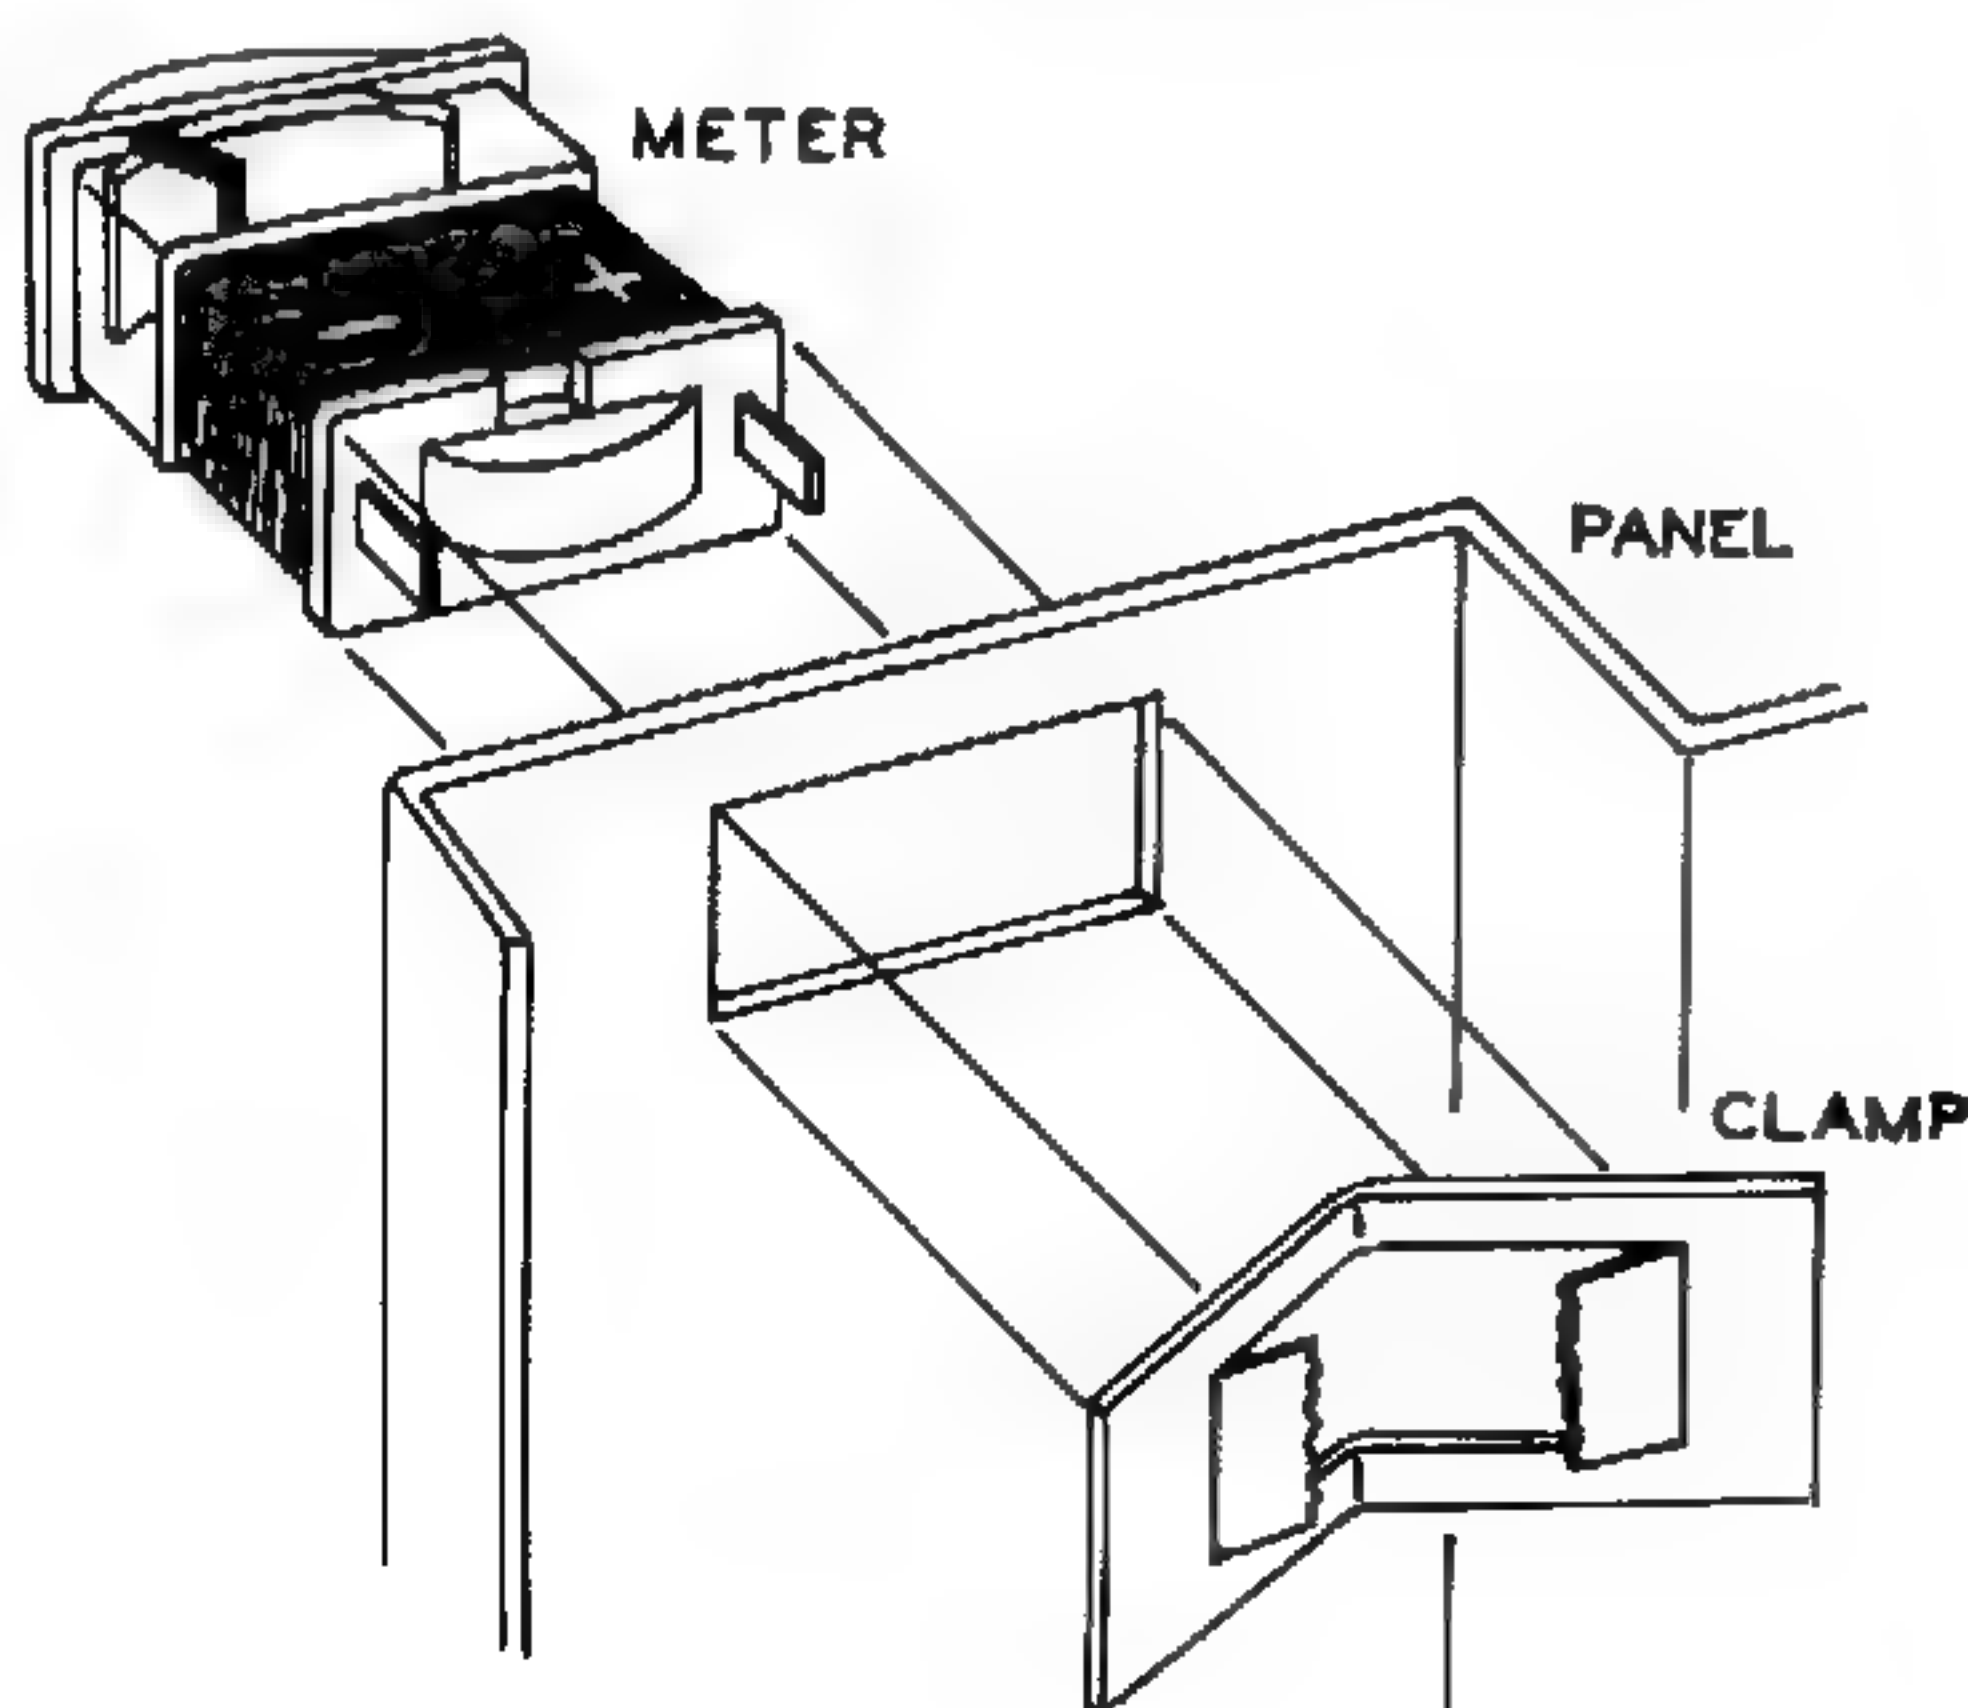

Figure 21
- ✓ Mount the meter in the position shown in Pictorial 2. The positive (+) lug goes toward the dial drum. Hold the meter against the panel, and slip the clamp over the rear of the meter. With a screwdriver, push both sides of the clamp tightly against the panel as shown in Figure 21.